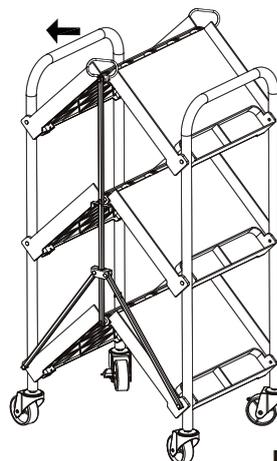

Fig.2
2. Fold the trolley by grasping the side grips along the top bi-fold and pull upward. Each tray will fold up until the tray halves are upright (Fig. 2).